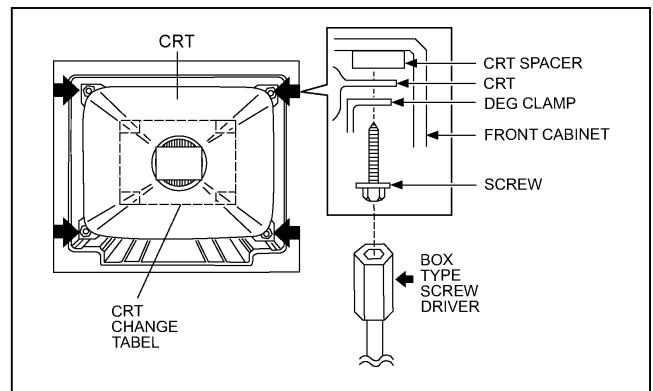

Fig. 5
- 2. While keeping the surface of CRT down, mount the TV set on the CRT change table balanced will as shown in Fig.5.
- 3. Remove 4 screws marked by arrows with a box type screw driver as shown in Fig.5.